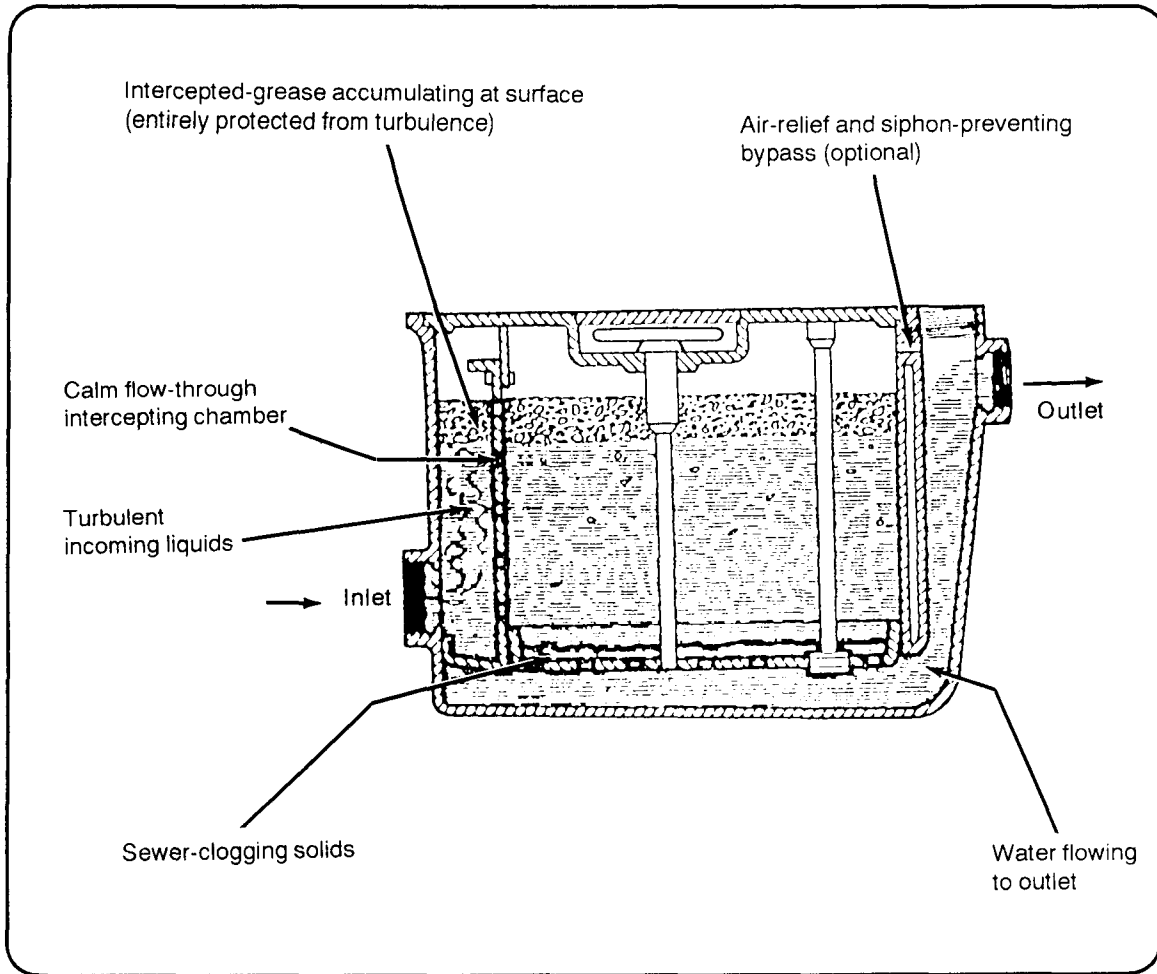

Figure 1-7. Grease trap
a. *Grease Traps.* Grease traps are placed in the flow line of the building sewer to catch grease and fats from kitchen and scullery sinks. (Solid grease usually clogs the waste pipes.) The box-type traps are made of brick, concrete, or metal, in various shapes and sizes. The grease trap should be set in the waste line as close as possible to the fixture. Figure 1-7 (page 1-19) shows baffle walls, which control the flow. Baffle walls are placed in boxes to separate floating grease particles.